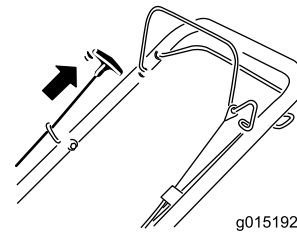

Figure 21
4. Hold the blade control bar against the handle and pull the recoil starter (Figure 21).